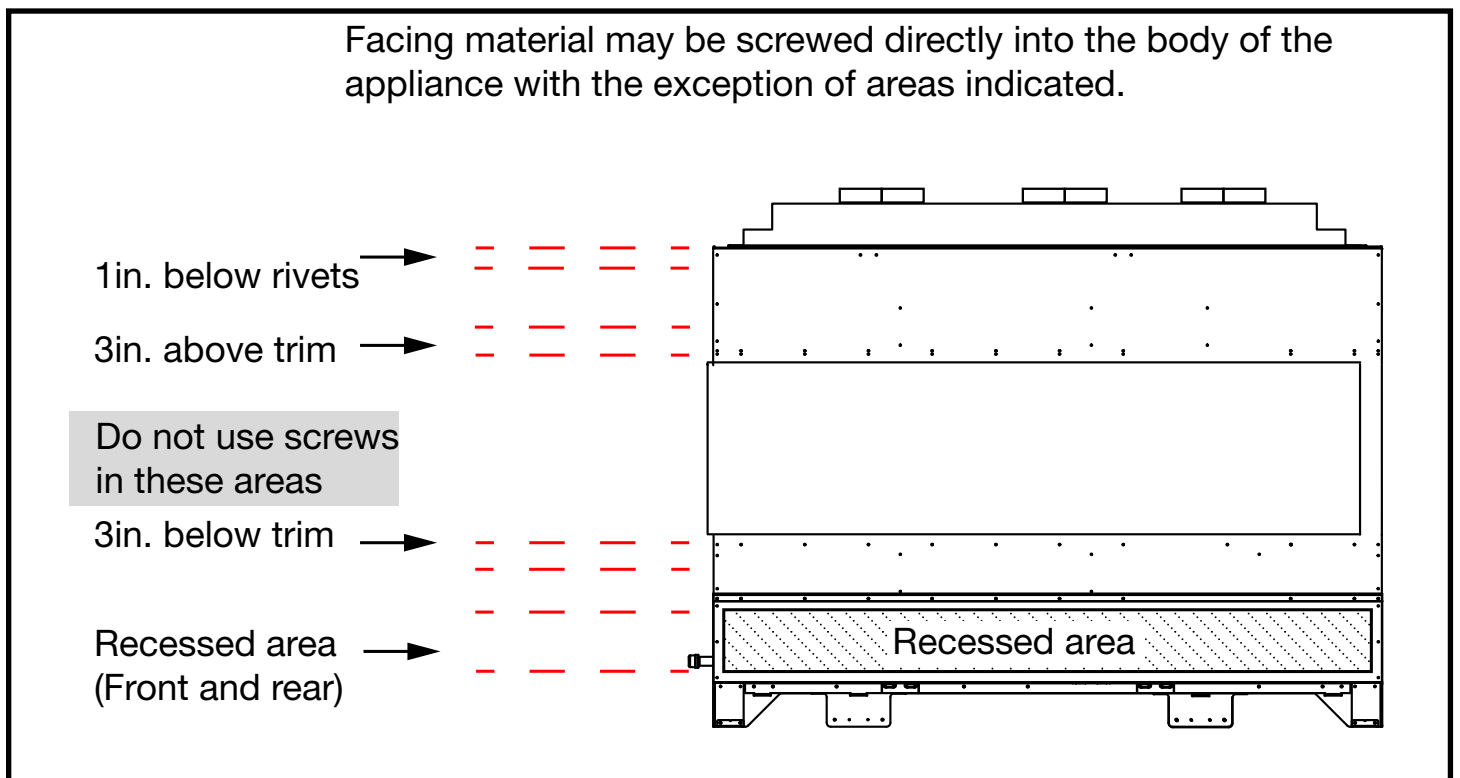

Figure 8: Facing attachment area for top intake models.
2. Facing material can be secured directly to the front and sides of the unit except in the areas indicated in this example by Figure 8. Each model will have its own specific areas in which screws must not be driven into.